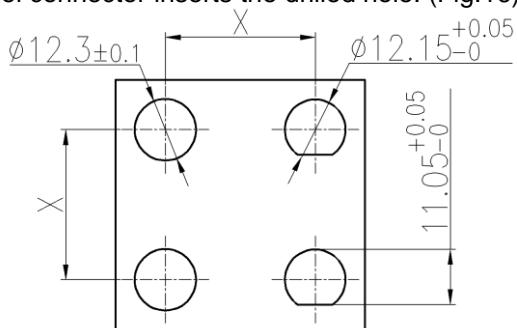

Figure 15
- ✧ 面板钻孔。钻孔的建议尺寸（如图 15），所有钻孔边缘的毛刺需要清除。我们建议，无论水平或垂直结构，间距值 (X) 至少要有 25mm(如图 15)
Drill holes at the panel wall. The proposed size of the borehole is shown in Figure 15. We recommend that the spacing value (X) is at least 25mm for both horizontal and vertical structures (Figure 15).